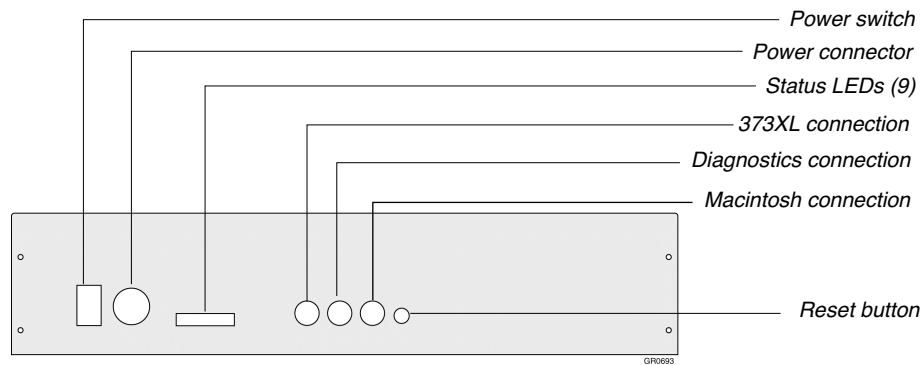

Figure 8-3. ABI PRISM 373XL Translation Interface Processor (back view)
If the firmware memory becomes corrupted, you might need to clear the instrument's memory so that the computer copies a new firmware image into memory the next time it connects to the instrument. Figure 8-3 shows the reset button and status indicators (LEDs) on the back of the Translation Interface Processor.
- The Translation Interface Processor LEDs (see Figure 8-3 on page 8-9) do not blink in their characteristic pattern but are stuck in one pattern, which might be all on or all off AND
1. Press the reset button on the back of the Translation Processor (refer to Figure 8-3 on page 8-9).